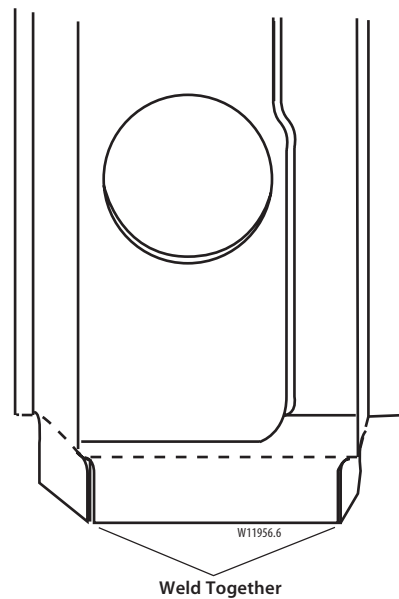

Figure 6-6:
9. Step the tabs inward to allow the reinforcement service section to fit over the original hinge pillar. Weld the tabs together along the edges (figure 6-6).